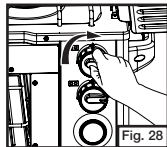

Fig. 28
- Turn control knobs in clockwise direction to switch three burners off. (Fig. 28, 29, 30)